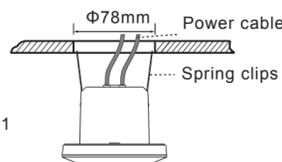

FIG.11
3.4.2.4 Close up sensor's two spring clips and insert the sensor into the drilled hole on ceiling (See FIG.11).